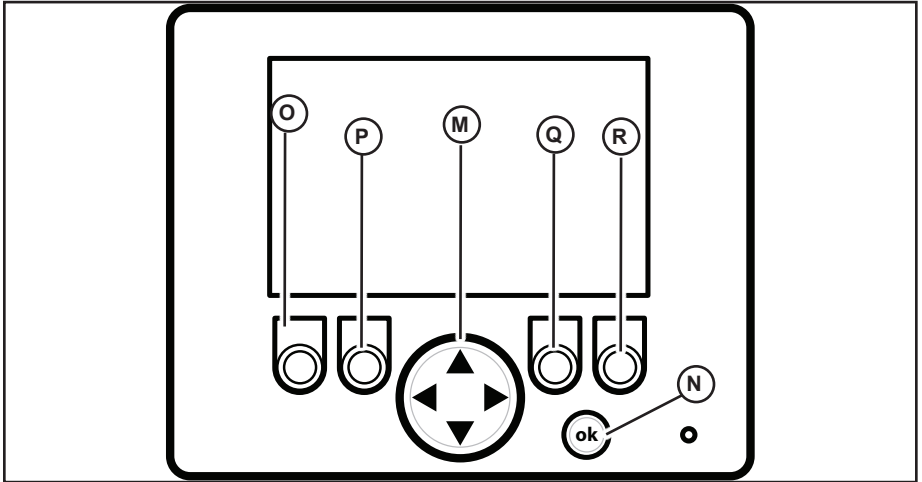

Fig. 8 - Information Center Electronic Display
<p>Quad Gauge Display</p> <p>Displays four different status parameters simultaneously. To change the displayed parameters, press and hold the ok button (N, Fig. 8) until orange bar (T) displays. Press the left/right side of navigation rocker button (M, Fig. 8) to select the parameter and press the top/bottom of navigation rocker button to change the selected parameter. Press the ok button again to dismiss orange bar (T).</p>
<p>Single Gauge Display</p> <p>Displays single real time operating parameters. Switch between parameters using the navigation button (M, Fig. 8). Used for various functions, depending upon screen and context.</p>
<p>All Secondary Screens</p>	<p>Secondary screens are accessed by holding down the ok button (N, Fig. 8) for 10 seconds while the Dual Gauge Display screen is displayed. Press the left/right side of navigation rocker button (M, Fig. 8) to switch between secondary screens.</p>
<p>Units Screen</p> <p>Press the top/bottom of navigation rocker button (M, Fig. 8) to switch between SAE or metric units for values displayed in screens.</p>
<p>Language Screen</p> <p>The press the top/bottom of navigation rocker button (M, Fig. 8) to switch between English or Spanish language for values displayed in screens.</p>